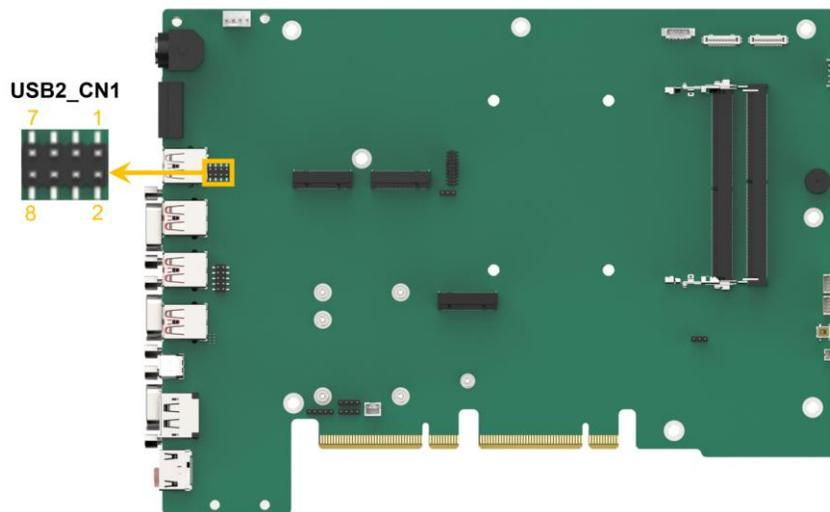

Figure 4-23: Internal USB 2.0 Connector Locations
- CN Location:** See **Figure 4-23**